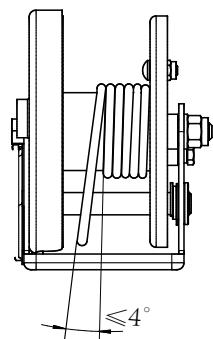

Fig.3
- Fitting the winch with the fleet angle no more than 4°. (Fig.3)